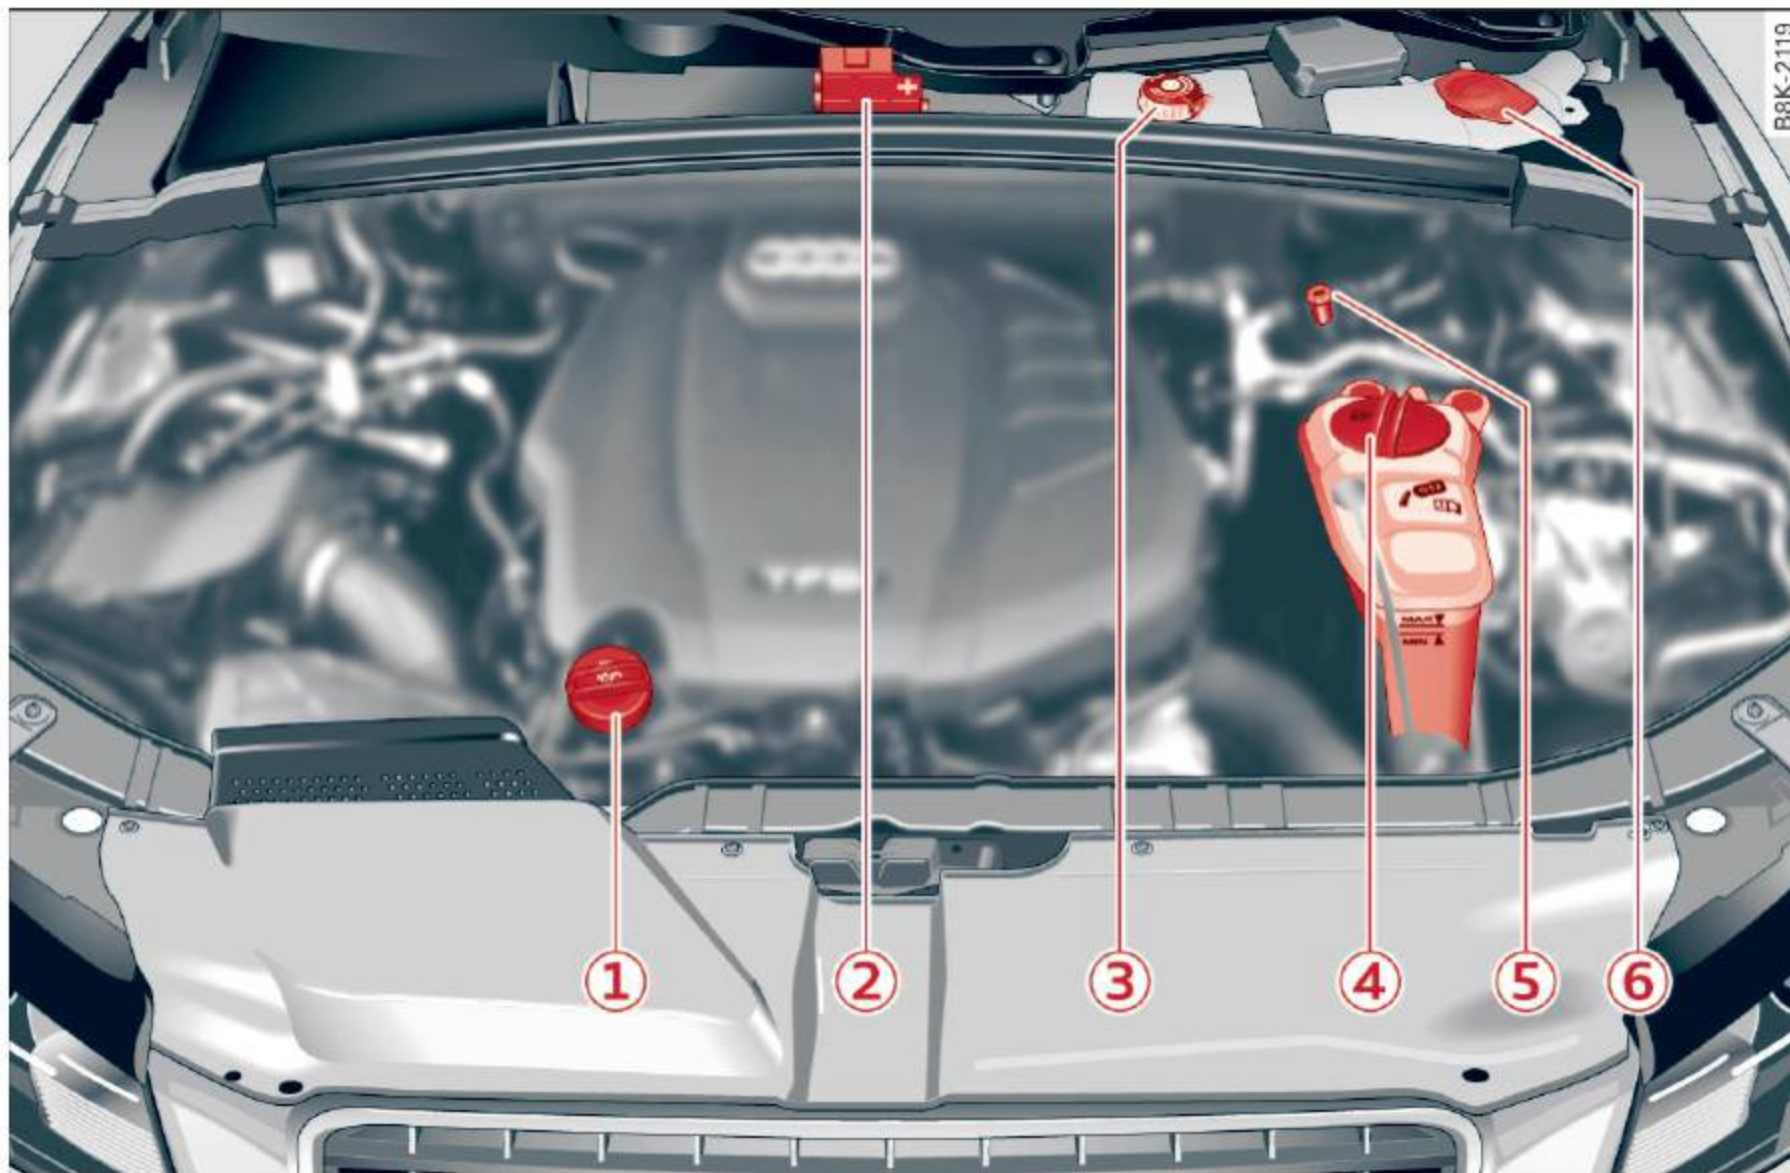

Fig. 161 Typical layout for containers and engine oil filler cap
- ① Engine oil filler cap (🛢️) 195
- ② Jump start point (+) under a cover 202, 237
- ③ Brake fluid reservoir (🚰) 199
- ④ Coolant expansion tank (🌊) 198
- ⑤ Jump start point (-) with hex head screw 202, 237
- ⑥ Windshield/headlight* washer container (🚿) 204
The position of the engine oil filling hole ⇒ fig. 161 (item ③) can differ depending on the engine design.
- ▶ Unscrew the cap to the engine oil filling hole ⇒ *fig. 163*, ⇒ *page 193*, *fig. 161*.